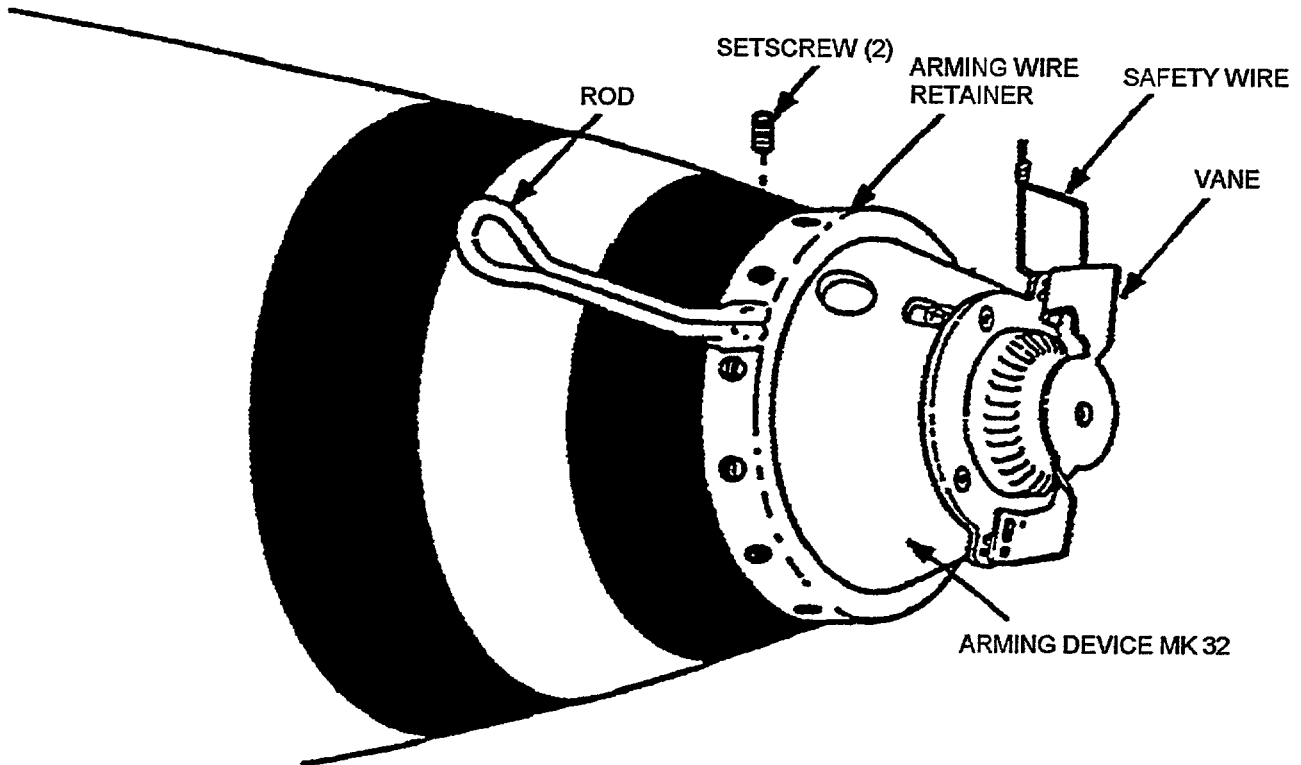

Figure 4-15A. Arming Wire Retainer Installation
- Position the arming wire retainer on Arming Device Mk 32 with the rod attached to retainer pointing aft as shown (Figure 4-15A).
- Standing directly in front of arming device, rotate the retainer so as to position the rod at a point between 9 and 10 o'clock. Align two of the setscrew holes in the retainer with two spanner wrench holes in the arming device (Figure 4-15A).